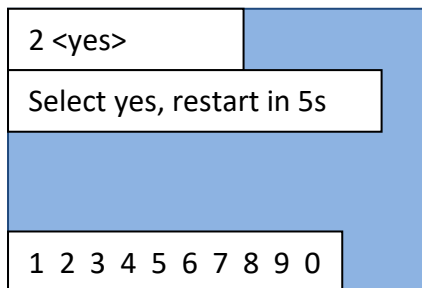

Figure 28 - Restart screen
- 2) Select '1. Restart' to restart the device manually. Confirm in the screen shown in Figure 28 to restart.